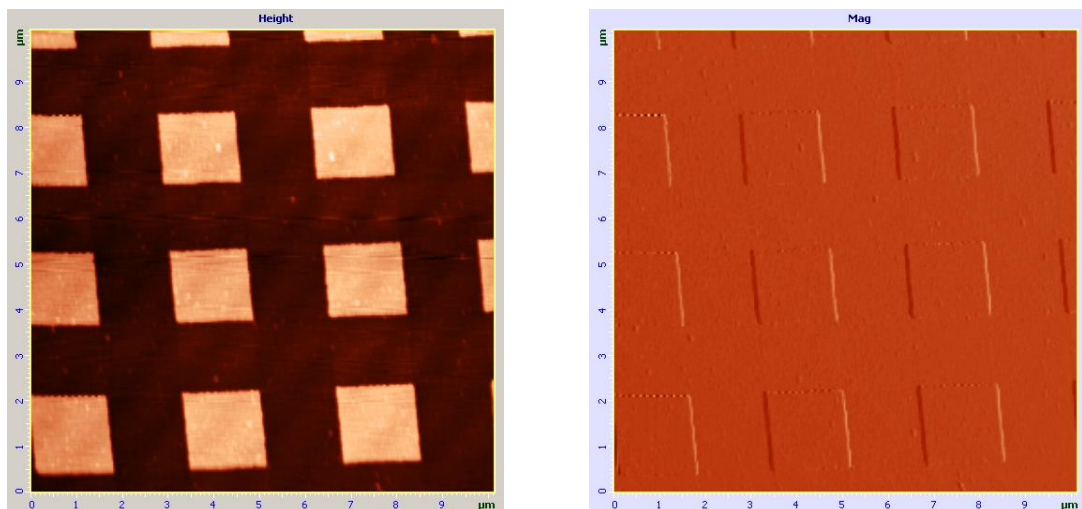

Fig. 8-31. Images of surface topography and the error signal (TGQ-1 grating)
- Two images appear in the field of 2D visualization of the scanning data. One of the images is an image of surface topography (signal **Height**), while the other one is the error signal (signal **Mag**) (Fig. 8-31);